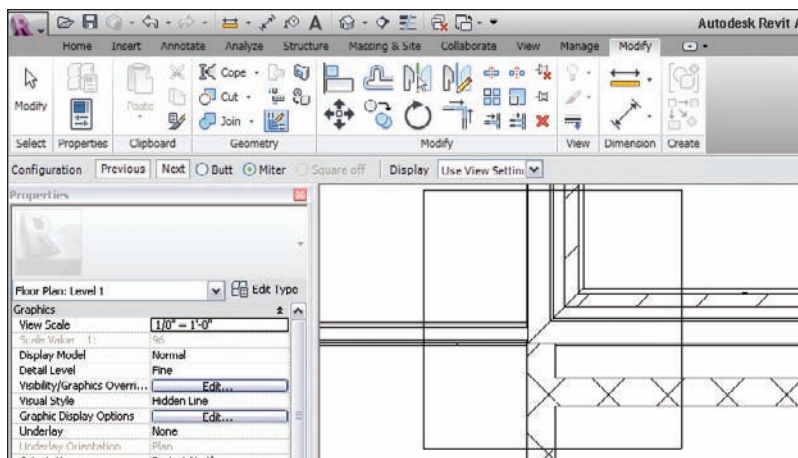

FIGURE 2.54 Adding a mitered join
10. On the Options bar, you will now see some choices for configuring this intersection. Select the Miter option, as shown in Figure 2.54. This option is the most popular.